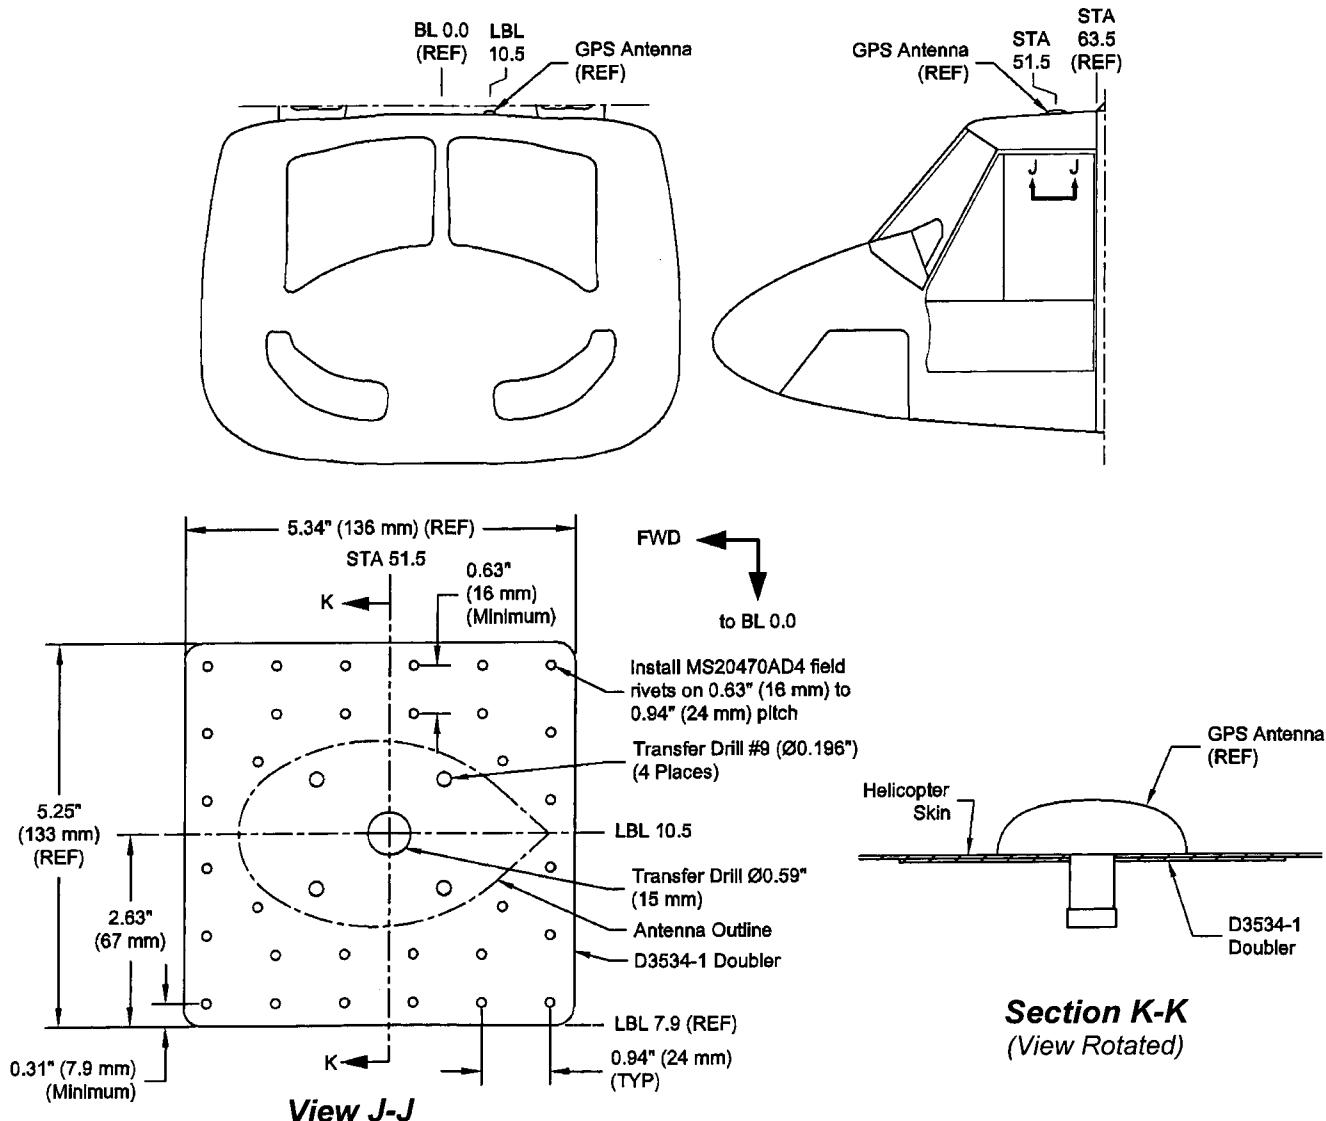

Figure 3.4.1 – D3534-1 Doubler Installation
3.4.1 Position the centre of the D3534-1 Doubler at the location shown in *Figure 3.4.1* on the interior roof of the cockpit (Left Butt Line 10.5 and STA Line 51.5). Remove any rivets from the helicopter that will be covered by the doubler. Test fit the GPS antenna (provided with GPS unit; not included in this kit) at the location shown in *Figure 3.4.1* on the exterior roof of the helicopter. Transfer drill qty(1) Ø 0.59" and qty(4) #9 (Ø 0.196") holes from the antenna through the helicopter skin and the D3534-1 Doubler. Deburr and touch up holes per the Aircraft Maintenance Manual.
- 3.4.3 Drill #30 ($\varnothing 0.129"$) rivet holes on a minimum 0.63" (16 mm) to maximum 0.94" (24 mm) pitch as shown in *Figure 3.4.1*. Deburr and touch up the holes per the Aircraft Maintenance Manual. Install MS20470AD4 field rivets (not included in this kit) in each hole.
- 3.4.4 Install the GPS antenna onto the D3534-1 Doubler at the location outlined in *Figure 3.4.1*, using the hardware supplied with the GPS antenna. Torque the nuts to 12-15 in-lbs (1.4-1.7 N-m).